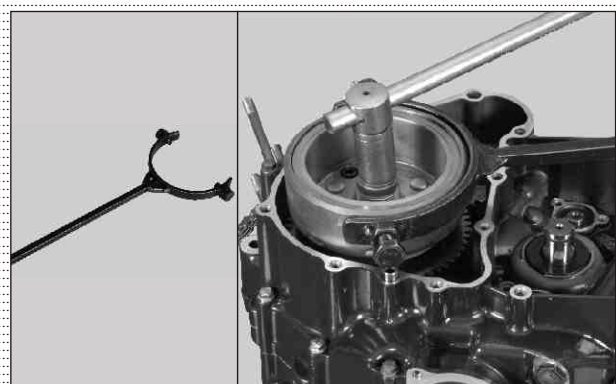

Fig. 1.10
- To hold magneto rotor while loosening or tightening the nut magneto. (Fig 1.10)